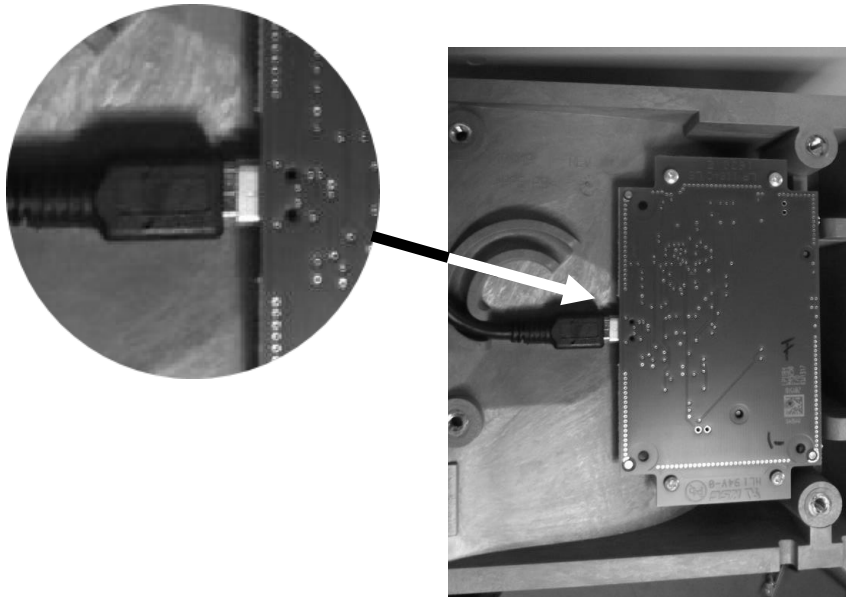

Figure 17
27. Connect the end of the USB Cable into the card reader board as shown in Figure 17.